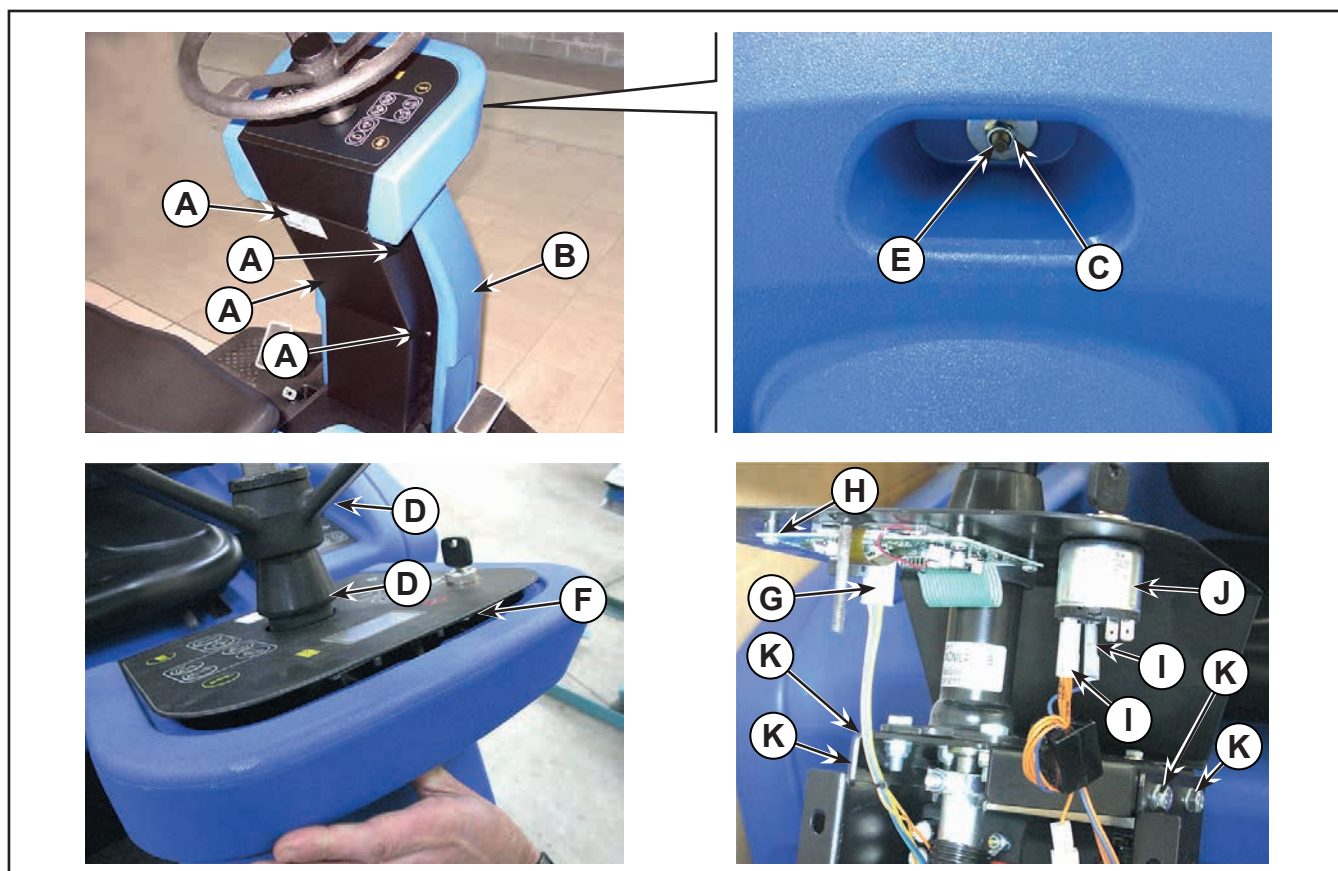

Figure 11
5. Unscrew the four screws (A, Figure 11) fastening the fairing (B).
6. Unscrew the nut (C) on the front.
7. Slide the sleeve (D) until it is flush on the steering wheel.
8. Press the stud (E), sliding it upwards (causing the Main Control Board (F) to lift slightly, then remove the fairing (B) by disengaging it from its seat and the stud (E).
9. Disconnect the electrical connection (G) from the Display Controller (H).
10. Disconnect the electrical connections (I) from the ignition key assembly (J).
11. Unscrew the four screws (K) on the Main Control Board support.